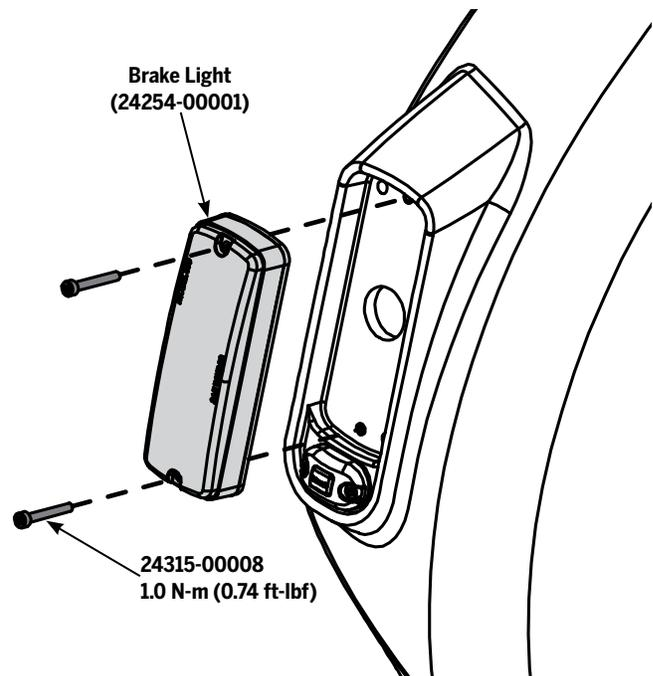

Figure 57: Brake Light
4. Using a 3 mm hex wrench, remove the two Brake Light fasteners. See **Figure 57**.
4. Slide the plastic sleeves onto the fasteners, then install the fasteners and (**Figure 57**).